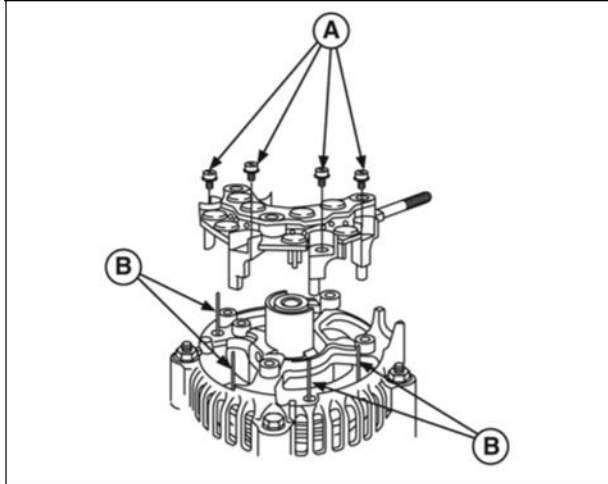

Figure 24
- 9. Remove two nuts and two thru bolts (A, Figure 24).